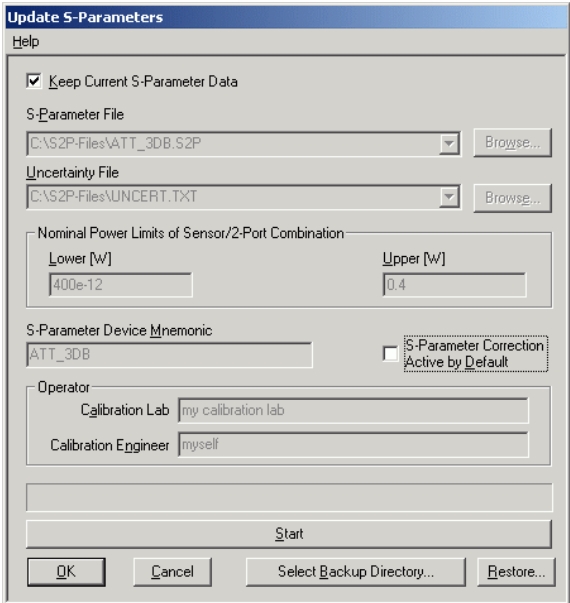

Fig. 3-5 Subsequently changing the default behavior of the s-parameter correction
2. Make sure **Keep Current S-Parameter Data** is activated (Fig. 3-5).